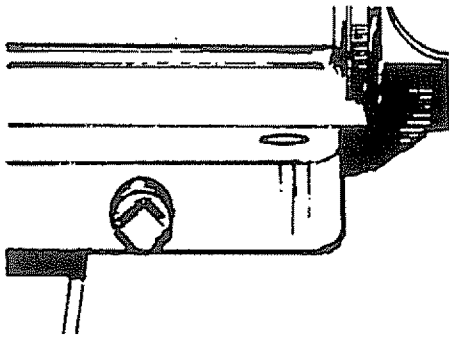

Figure-7
- Clean area around oil drain plug (Figure-7).